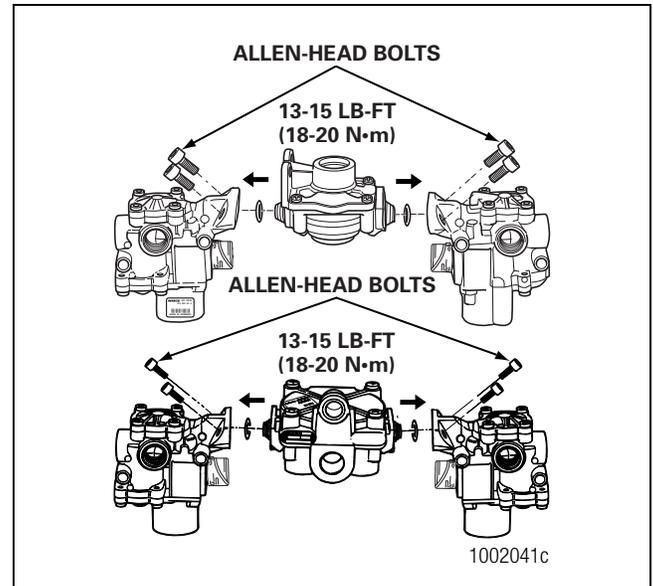

Figure 4.8
1. Remove the ABS valve package from the vehicle. Figure 4.8.